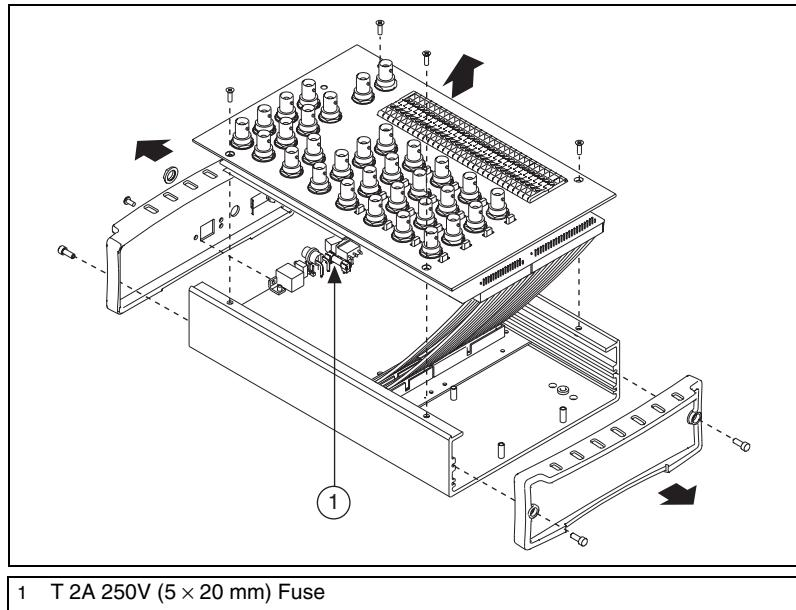

Figure 3-6. USB-62xx BNC Fuse Location
7. Replace the broken fuse while referring to Figure 3-6 for the fuse location.